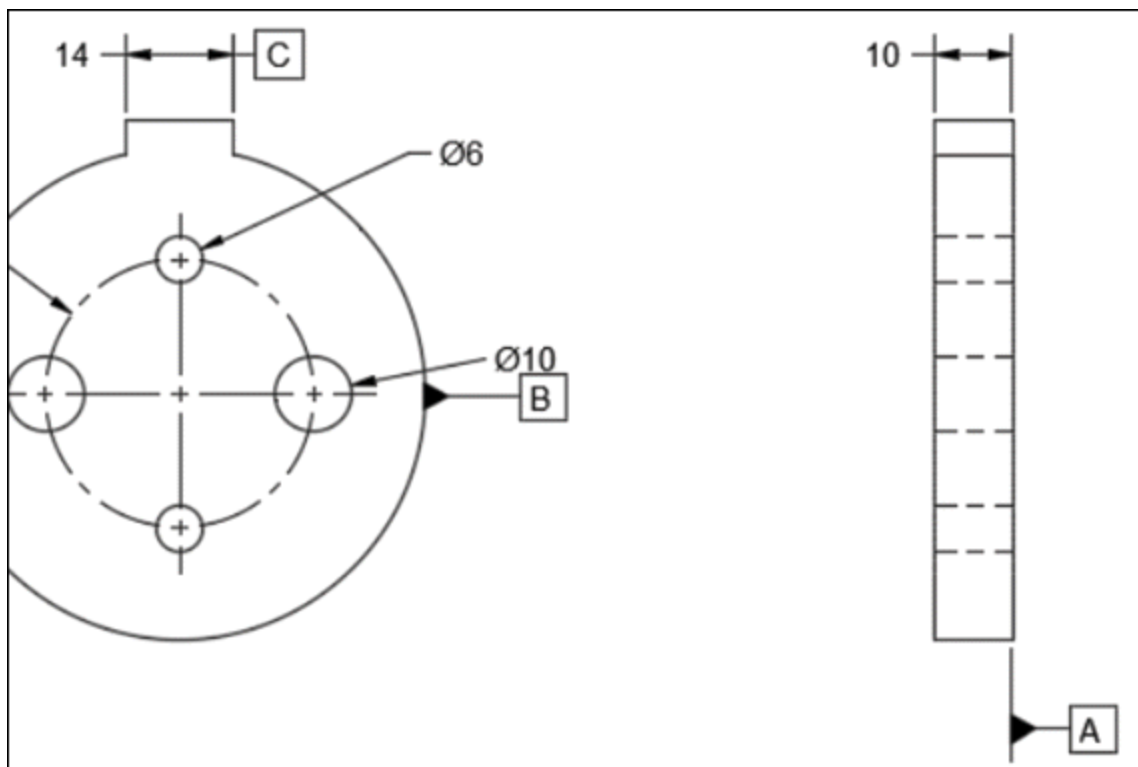

Figure-148. Applying datum identifier
- Click on the **Datum Identifier** tool from the **SYMBOLS** panel in the **Toolbar** and place the datum identifiers as shown in Figure-148.